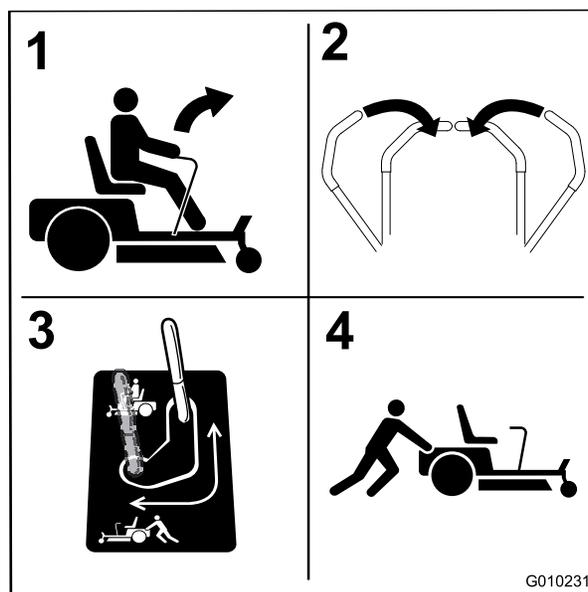

Figure 31
4. Move the bypass levers rearward and then down to lock them in place as shown in Figure 31 to disengage the wheel motors. Repeat this on each side of the machine.
Move the bypass to the position for pushing the machine (Figure 31) to engage the wheel motors.